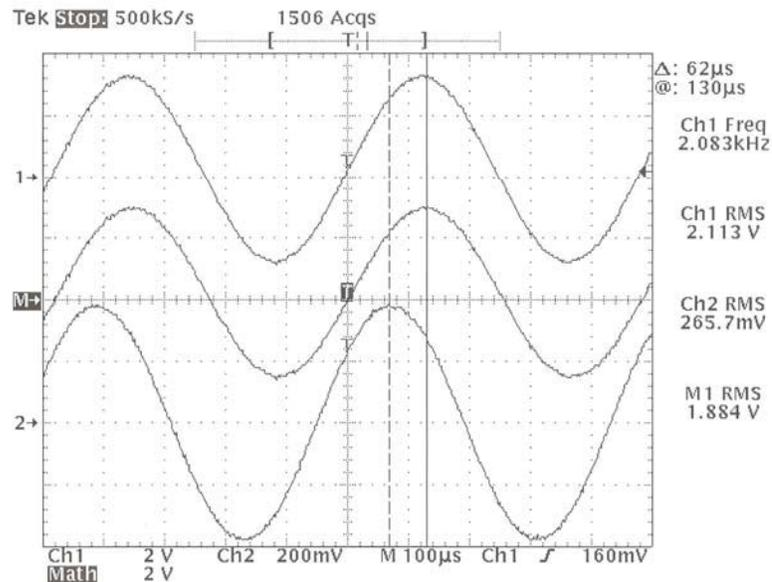

Figure 4.11
10. Obtain a printout at a frequency $f \approx 2 \text{ kHz}$ and another at a frequency $f \approx 5 \text{ kHz}$, each showing the three waveforms, their RMS magnitudes and the V-bar cursors positioned to indicate the time-shift Δt between the M and Ch2 waveforms. A typical DSO display (with $R_1 = 504 \Omega$ and $f = 2083 \text{ Hz}$) is shown in Figure 4.11. (Make sure to obtain your TA’s signature on the printouts)
In the example shown in Figure 4.11, Z is capacitive since $f < f_r$ and its magnitude is $100(1.884/0.2657)$ or 709Ω and its angle is $-360(2083)(62\mu)$ degrees or -47° .